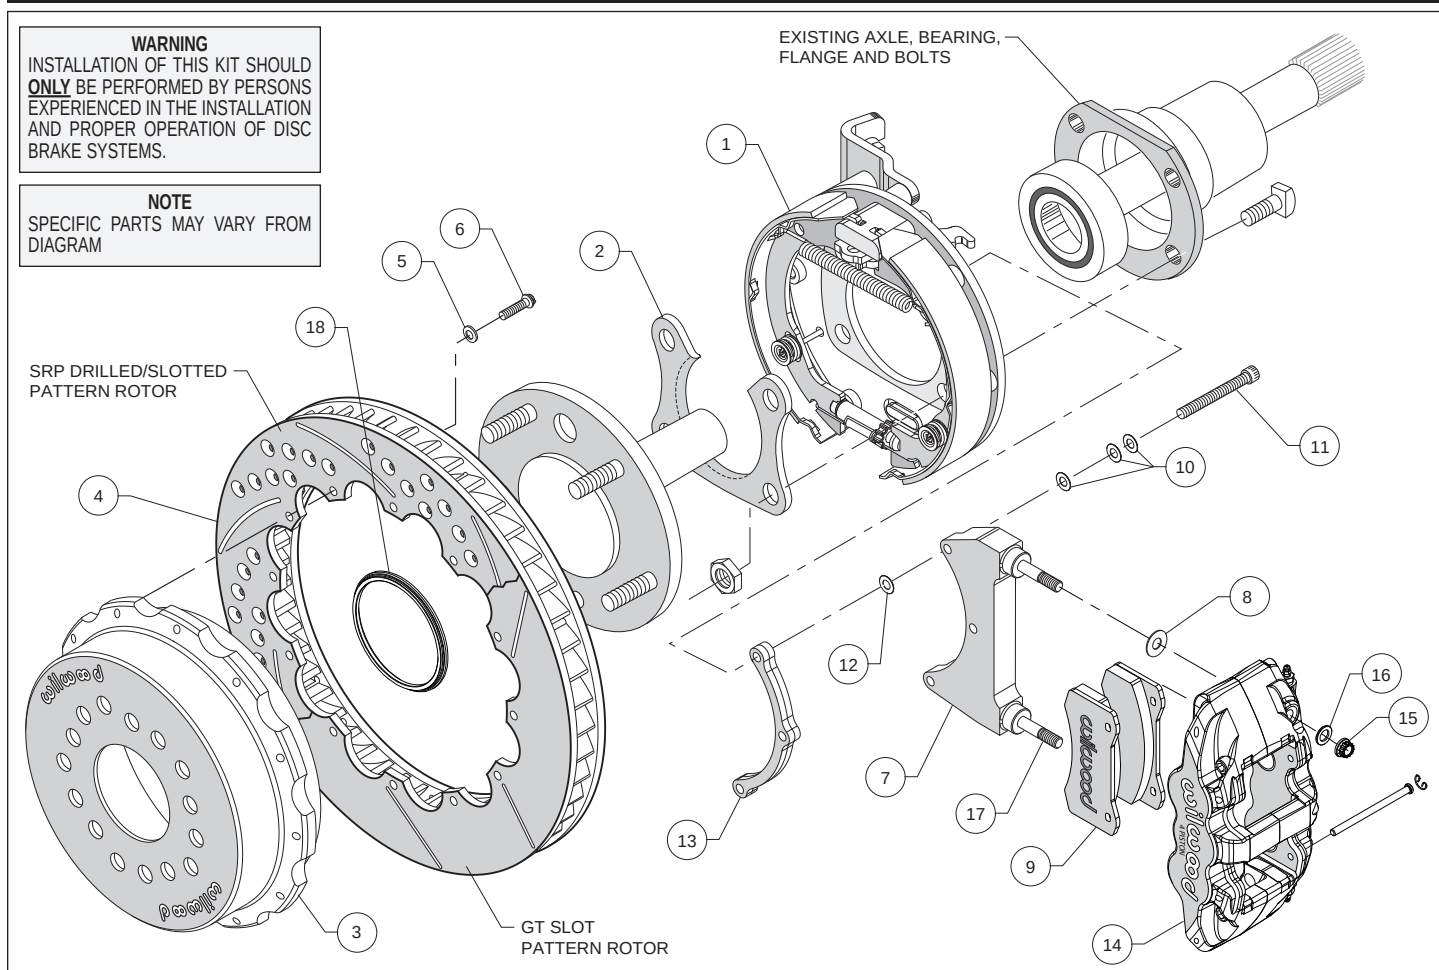

Figure 1. Typical Installation Configuration
- Orient the bracket assembly (1) as shown in Figure 1, and slide it onto the axle flange. Ensure that the bracket assembly backing plate fits flush against the housing flange. Insert the axle shaft into the axle housing.
- Install the bearing retainer (2) with the opening pointing upward and the lip facing inward (toward the bearing), as shown in Figures 1 and 4. Secure using the Original Equipment Manufacturer (OEM) bolts and nuts, Figure 1. Apply red *Loctite*® 271 to the OEM bolt threads and torque to OEM specifications
•Slide the rotor registration adapter (18) onto the axle register on the axle flange with the smaller O.D. facing toward the rotor/hat (3). Align the correct hole pattern in the hat with the stud pattern on the axle flange. **NOTE:** Some OEM and aftermarket axles come with stud sizes larger than 0.50" diameter. Verify stud size and have a qualified machine shop drill the hats to the correct size, if necessary. Slide the hat/rotor assembly (3 and 4) over the wheel studs covering the bracket kit assembly (1) and against the axle flange face. Check to be sure the hat seats squarely against the hub. Install three lug nuts (finger tighten) to keep the rotor/hat assembly in place while continuing with the installation.
•**NOTE:** Please reference the caution statement at the beginning of the assembly instructions. The caliper mounting bracket assembly (7) should be installed first with clean, dry threads on the mounting bolts (11). Install the bracket from the rear side of the bracket kit assembly (1) by sliding bolt (11) through three flat washers (10), bracket (7), shim washer (12) and finally through the spacer (13), see Figure 1. **NOTE:** End of bolt should not exceed inside face of insert. The bracket must tighten squarely against the back side of the bracket kit assembly (1). Inspect for interference from casting irregularities, machining ridges, burrs, etc. Use one thin shim (12) between the bracket (7) and spacer (13) during initial trial fitting.
•Lubricate caliper mounting studs and nuts with lightweight oil. Install one shim (8) over each pre-installed stud (17) on the radial mount bracket (7). Slide the caliper (14) in place over the studs and rotor, then install the washer (16) and lock nut (15) to hold the caliper in place. The caliper bleed screws should be pointing up. Snug the lock nuts (15) and check that the rotor (4) is centered in the caliper (14). Add or subtract .015" shims (12) as necessary between the caliper mounting bracket (7) and the spacer (13) to center the caliper (14).
•Remove the two pad retaining pins from the caliper (14) by carefully popping out the pin retaining clips and sliding out the pins. Insert the brake pads (9) into the caliper from the bottom, Figure 1. With the friction material facing the rotor, secure the brake pads in place with the pad retaining pins and clips. Reinstall the caliper onto the caliper mounting bracket and temporarily tighten the lock nuts. Check that the top of the brake pad is flush with the outside diameter of the rotor. If not, adjust by adding or subtracting shims (8) between the caliper and the bracket.
•Adjust the parking brake shoes outward (using a drum shoe adjustment tool available at your local auto parts store) while spinning the hat (3) until a slight drag is felt against the hat/drum. Remove the lug nuts that were holding the hat/rotor in place. Install the wheel and lug nuts. Check to see that the wheel rotates freely without interference.
•Once all clearances have been checked, remove the wheel, caliper, hat/rotor from the bracket kit assembly (1). Secure the caliper mounting bracket (7) to the bracket kit assembly (1) using red *Loctite*® 271. Torque bolts (11) to 180 in-lb. Reinstall the hat/rotor assembly and again use lug nuts to hold it in place. Reinstall the caliper, torque the caliper nuts (15) to 47 ft-lb.
•**NOTE:** Clevis and cable kits which attach to the parking brake assembly are not included in the Wilwood parking brake kit. Wilwood offers a generic style parking brake cable kit, P/N 330-9371 for this application which can be ordered separately from your local Wilwood dealer or by calling Wilwood customer service at (805) 388-1188.